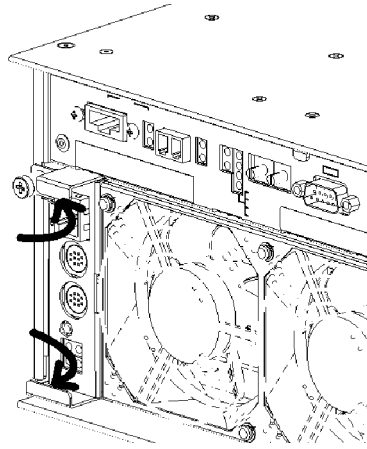

Figure 3-12. Grasping the SVP Service Processor.
3. Grasp the points shown in Figure 3-12 and pull the SVP Service Processor toward you. Remove the SVP Service Processor.